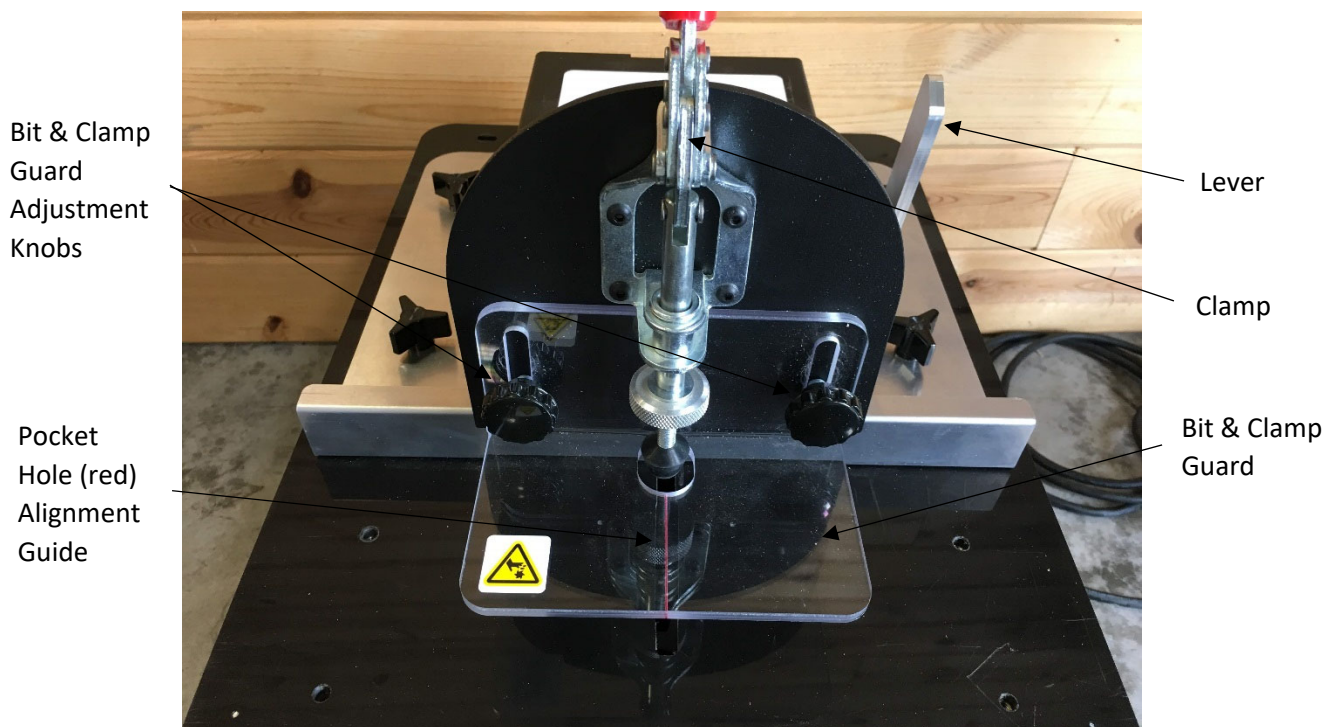

Figure 9: Tabletop Components
7. Adjust Bit & Clamp Guard (Figure 9) over test piece, approximately $\frac{1}{4}$ ". Loosen the Bit & Clamp Guard Adjustment Knobs (Figure 9) and adjust Bit & Clamp Guard to allow insertion and removal of material, but so as to NOT allow fingers or hands under or behind the Bit & Clamp Guard during operation.
NOTE: The “Pocket Hole (red) Alignment Guide” (Figure 9) indicates location of pocket to be cut.
Do not process pieces that are so small that your hand must be behind or under the Bit & Clamp Guard (Pg. 14, Figure 9). Safety Speed Screw Pocket Machines are not recommended for work pieces that are shorter than the clamp guard. Rails and similarly narrow stock can be positioned using the Perpendicular Guide Accessory (Part# SP45) as long as they extend beyond the clamp guard and have a minimum of 3/8" on each side (offset) of the pocket.